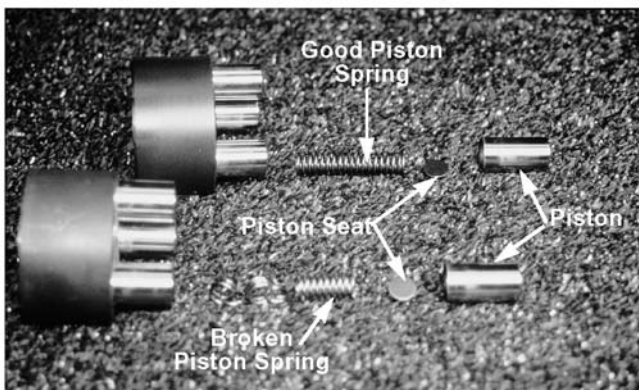

Figure 6-153
31. Shown here is another example of a good cylinder block assembly versus a bad cylinder block assembly. The bad cylinder block assembly has a broken piston spring. This will cause the transmission to display low or no power symptoms. The piston spring will probably damage the running surface between the valve plate and the cylinder block assembly. See Figure 6-153.